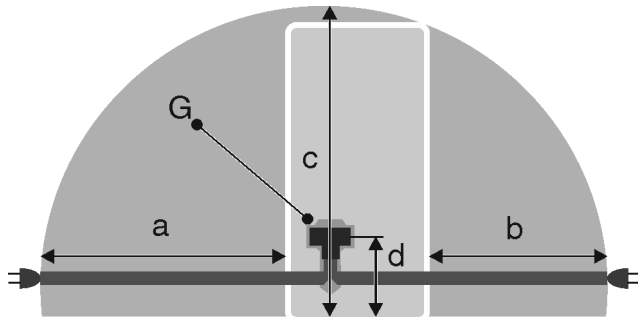

Fig. 27*
- The socket is not located behind the appliance but in areas a or b *Fig. 27 (a, b, c)*.
- ▶ Insert the appliance plug *Fig. 27 (G)* on the rear side of the appliance. Ensure that they latch into place correctly.